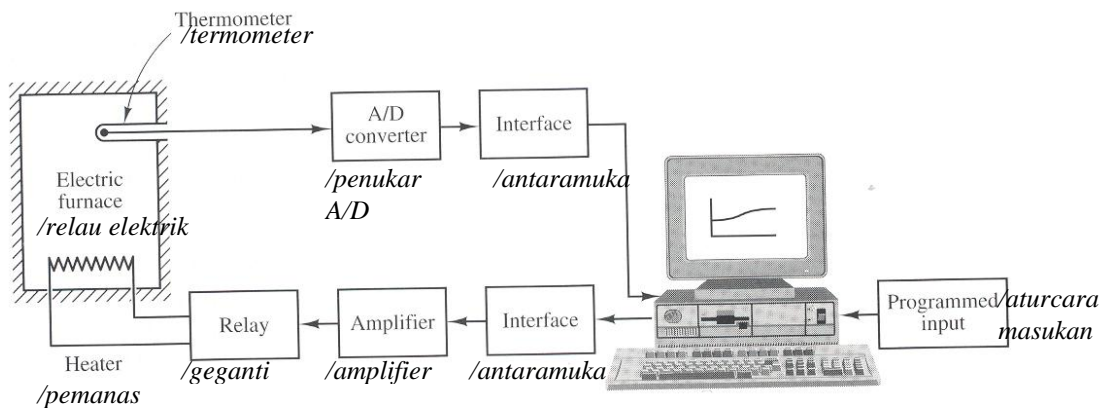

Figure 3(a) /Rajah 3(a)
3. (a) **Figure 3(a)** shows a temperature control system of an electric furnace. The actual temperature in the electric furnace is measured by a thermometer which is an analog device. The analog temperature is converted to a digital temperature by an A/D converter and fed to a computer through an interface. The digital temperature is compared with the input temperature data from the programmed input. If there is any error, the computer sends out an error signal to the heater, through an interface, amplifier and relay, to bring the furnace temperature to the desired value.
- (b) The specifications for a 24V dc motor is given in Appendix A. The dc motor drives a load via a set of gears as shown in **Figure 3(b)**. The load specifications are: